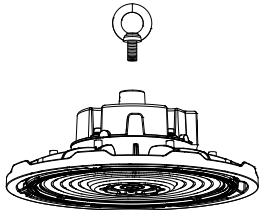

Figure 1
1. Screw the eyebolt into the fixture and tighten it. (Figure 1)